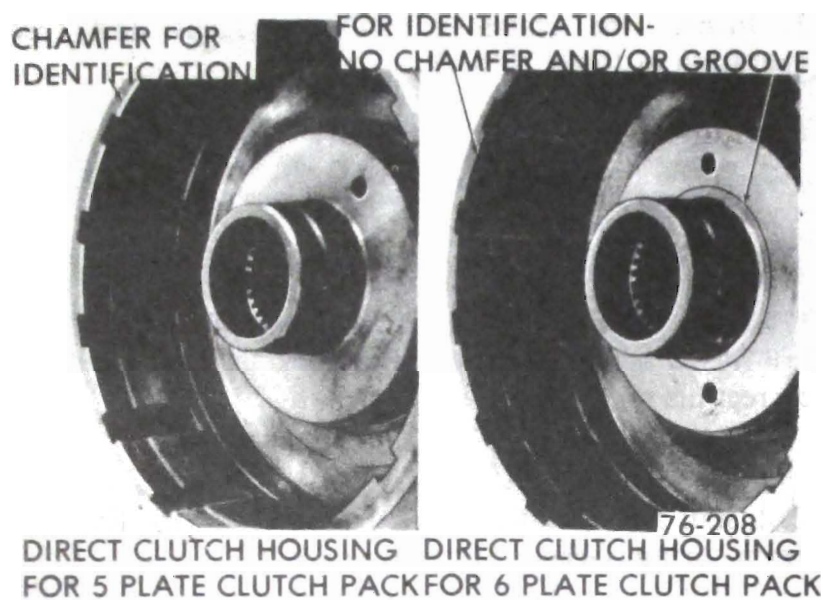

Figure 76-208 Direct Clutch Housing Identification
The direct clutch housing for the "BS" and "BB" models use the six (6) plate direct clutch assembly. This housing can be identified by the elimination of the I.D. chamfer on the clutch plate end of the housing and/or a groove in the face at the base of the tower. See Figure 76-208. Should replacement of the direct clutch housing become necessary, extreme care must be taken in obtaining the correct part for the model involved.